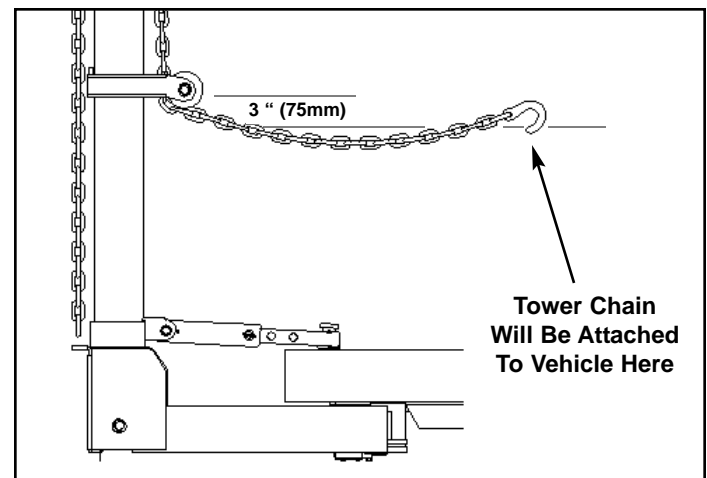

Figure 19
7. Support collar with one hand while loosening collar locking knob with opposite hand. Then position collar approximately 3 inches (75mm) above desired pulling height and retighten collar locking knob. (See Figure 19.)